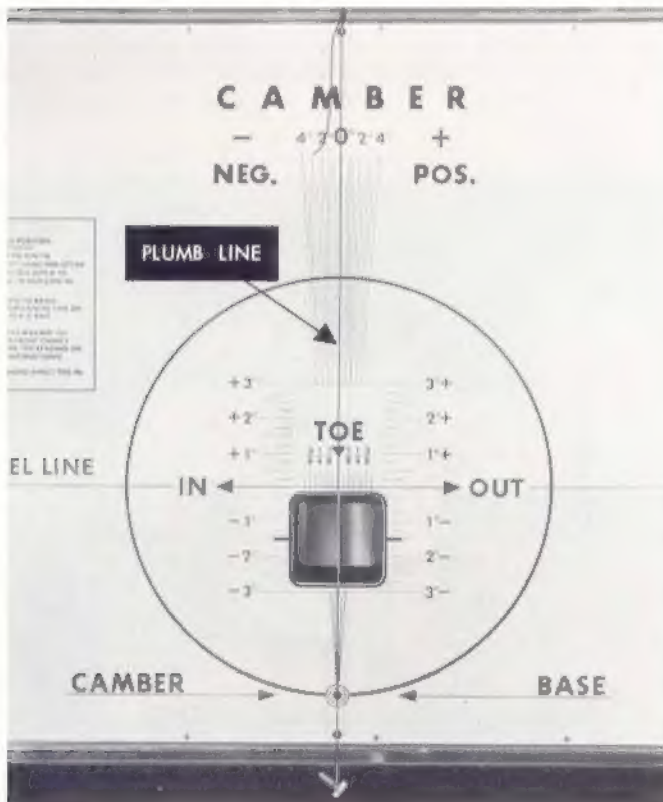

FIGURE 11
1. **TO CHECK LEVEL BUBBLES ON CHARTS:** First, adjust chart feet screws for plumbing the chart faces, as explained in Section B, Page 3. Slide the charts back and forth to make sure the rollers are properly positioned on top frame rails. Adjust charts by using adjusting handles so that the **vertical red toe lines** are **plumb**, using a good carpenter level, plumb-bob, or even a bolt tied to a string. (See Figure 11.) Then check level bubbles for accuracy. If the bubbles are not **exactly** centered, loosen the screws holding the level barrels and adjust properly. Hence, when the level bubble is centered, the vertical red toe line is exactly vertical.